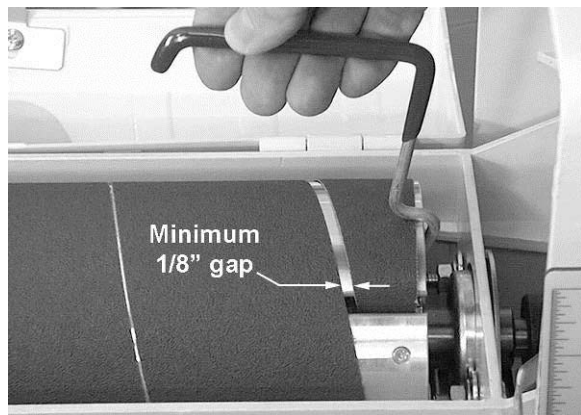

Figure 13
10. Turn the TUFTool counterclockwise and lower it onto the abrasive strip, making sure it is holding the paper tight (Figure 13).
IMPORTANT: Leave a gap – at least 1/8” – between the tapered strip and the closed end of the slot (Figure 13) to allow strip to be pulled into the fastener as needed. If necessary, trim the outside edge of the abrasive strip.